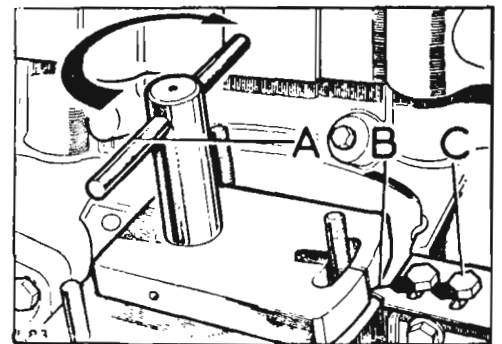

Fig. 27
3. Insert the timing gauge (A) Fig. 27, Rover Part Number 605863, into the driving gear, then twist gauge in a clockwise direction to take up backlash and any wear in the gears. Hold this position, then, if necessary, slacken off bolts (C) Fig. 27 retaining timing pointer (B) Fig. 27 on side of cylinder block. Adjust pointer so that it coincides with the line on timing gauge.